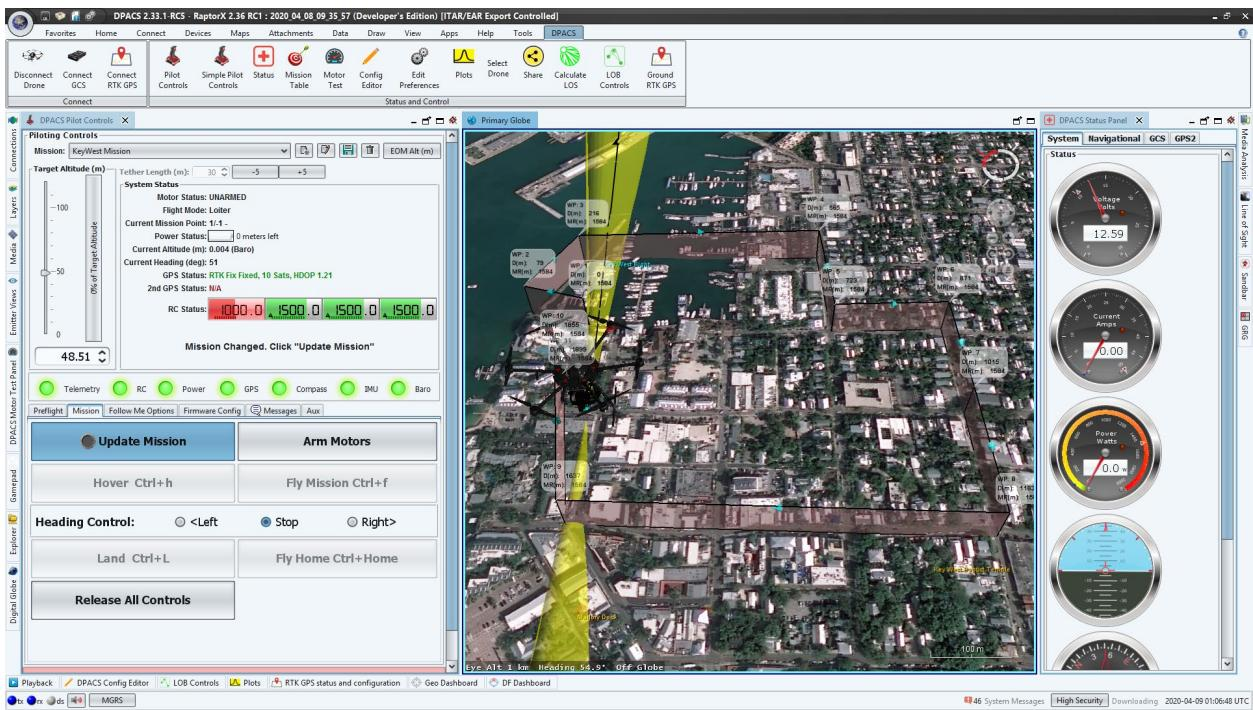

Figure 34 – The display of waypoints associated with the waypoint mission
1. The execution of the “Route” mission is like the elevator mission except that a route has to be created first. This can be done by first clicking on the  button to start a new mission. Enter the mission name in the dialog, click OK and then start clicking out the route on the map. After you are done, click on the  button to save the mission. It will be automatically selected in the combo box as the current mission. To edit the mission click on the  button and the click the  when you are done. The route should look like Figure 34 when the save button is click (i.e. no handles on the route). The mission will be saved to disk as well so that it can be retrieved in the future by name.